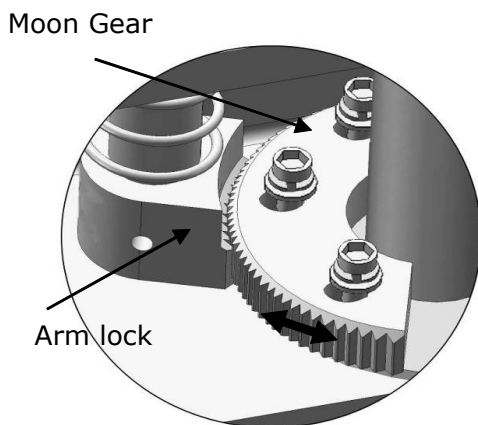

Fig. 35
3. Adjust the arm lock as direction of arrow **(See Fig. 35)**